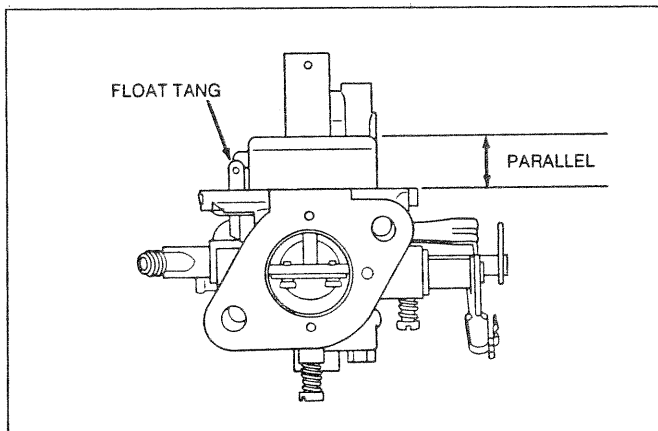

Figure 136. Float Adjustment
- With the carburetor body upside down, float should be parallel with the bowl mounting surface. If it is not parallel, bend the float tang to adjust (Figure 136).